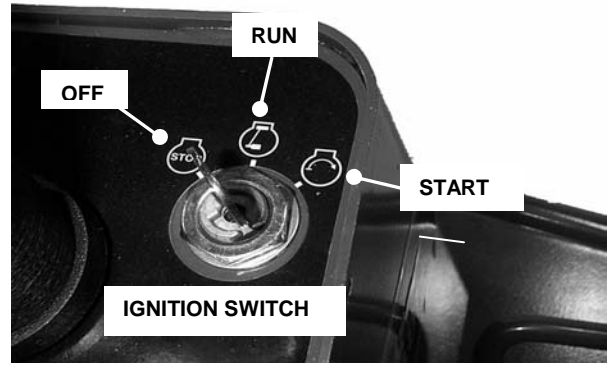

FIGURE 2.8
5. Turn key to "RUN" position. See Figure 2.8.